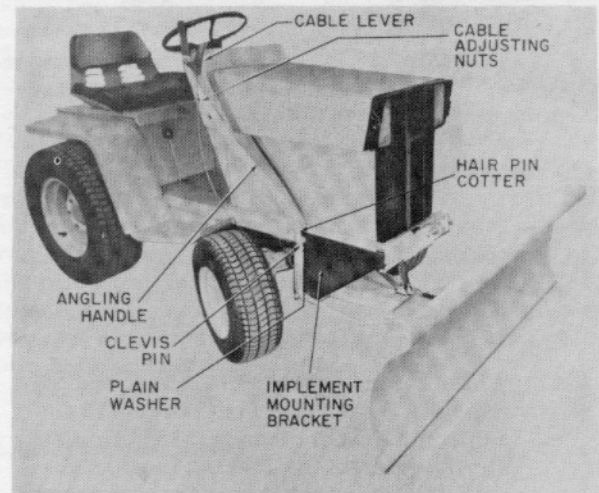

Figure 1
2. Attach the angling handle to the right mounting bracket clevis pin. (The right side as determined by sitting on the tractor seat). Secure with a 5/8-inch plain washer and the existing hair pin cotter. See Figure 1.
**Angle Locking Block** - The cable assembly must be adjusted properly to allow full blade angle locking with the cable lever released and to allow the locking block to clear the pivot plate by 1/8-inch with the cable lever depressed. If adjustment is necessary, loosen the cable adjusting nuts (See Figure 1), and reposition the cable sheath so the 1/8-inch clearance is obtained with the lever depressed. Tighten the nuts with the cable in this position.